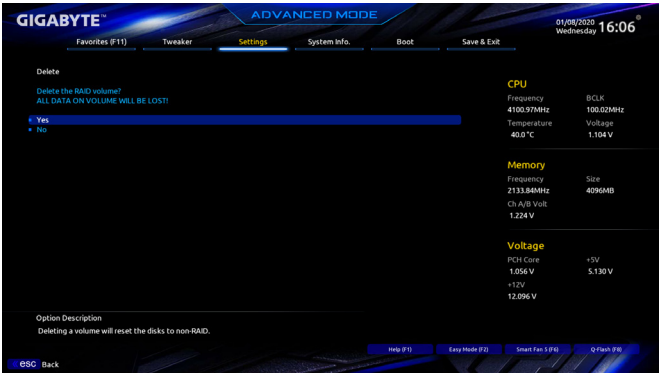

Figure 12
To delete a RAID array, press <Enter> on the volume to be deleted on the **Intel(R) Rapid Storage Technology** screen. After entering the **RAID VOLUME INFO** screen, press <Enter> on **Delete** to enter the **Delete** screen. Press <Enter> on **Yes** (Figure 12).